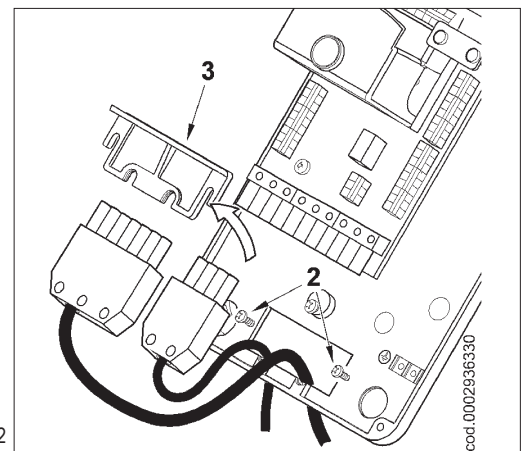

Fig. 2
- Loosen screws (2) to remove the cable float plate (3), pass the two 7 and 4 pole plugs through the hole in figure 2.